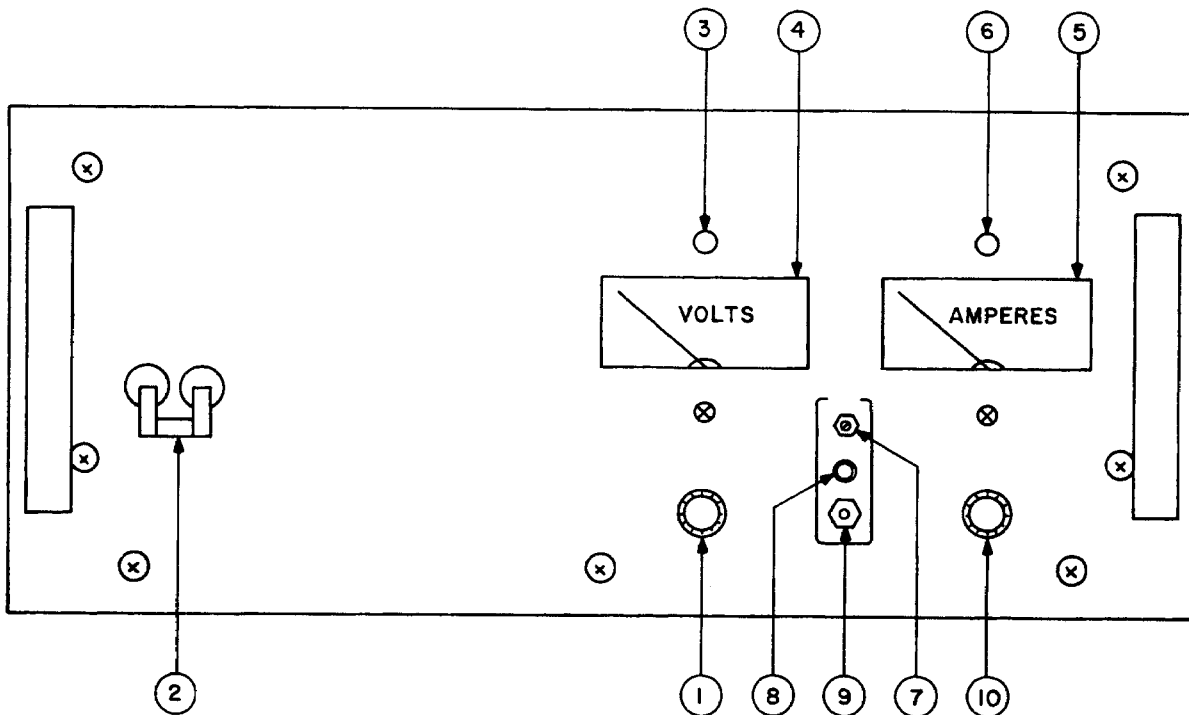

FIG. 2-2 CONTROLS AND TERMINATIONS, ATE FULL RACK GROUP, FRONT.
- a) FRONT PANEL: Refer to FIG. 2-2 and Table 2-2.
2-9 A simple operating check after unpacking and before permanent installation is advisable to ascertain whether the power supply has suffered damage resulting from shipment. Refer to FIG. 2-2 and to FIG. 2-3 for the location of the operating controls and output terminals.